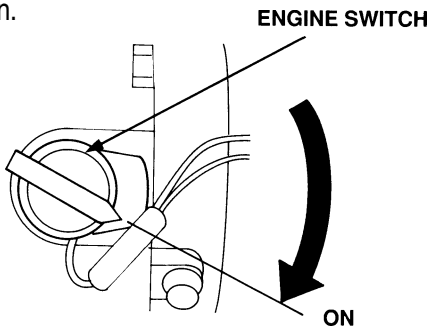

Figure 12. Engine ON/OFF Switch (ON Position)
- Place the **engine ON/OFF switch** (Figure 12) in the "ON" position.